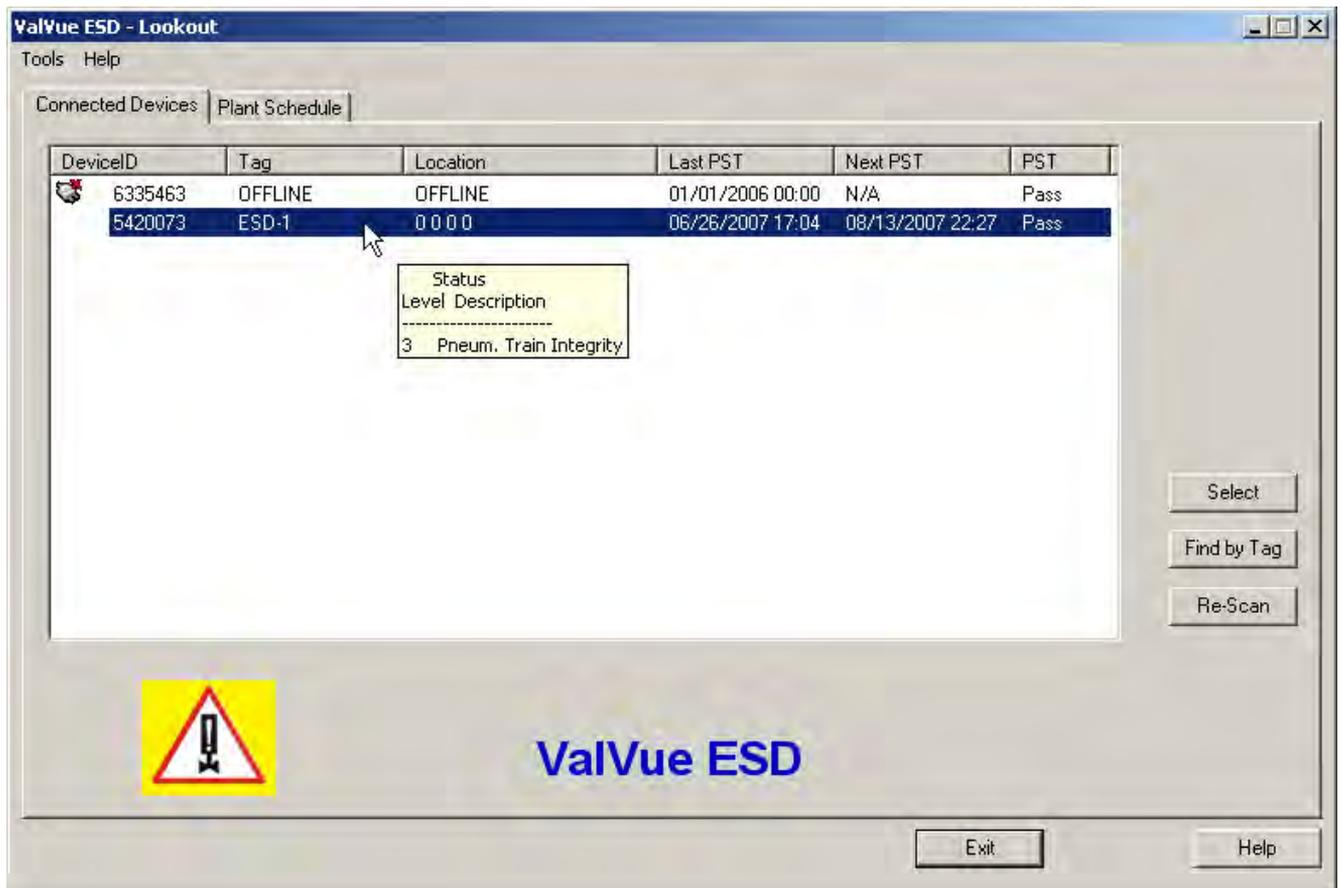

Figure 58 Selecting a Connected Device
After you have successfully logged into ValVue ESD the software automatically scans the SIS (Safety Integrated System) for any devices that are connected to the system. The connected devices that are found during the scan appear as shown in Figure 58.
1. Click on the name of the device for activation (Figure 58).